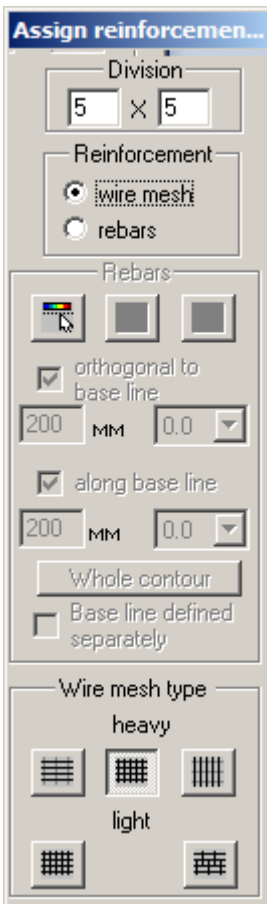

Figure 2.7.9 **Assign reinforcement zone** dialog box
- ⇒ In the **Assign reinforcement zone** dialog box (see Fig.2.7.9), do the following: